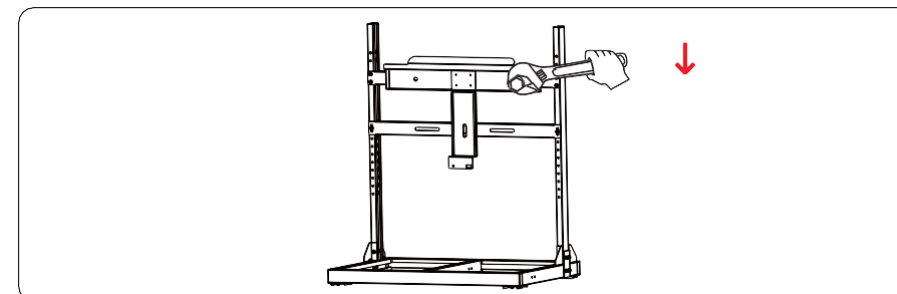

Figure 4.10 Tightening the rear panel with the support
**Step 2** Tighten the rear panel with the support using M12 bolt to a torque of 42 N.m (as shown in Figure 4.10).